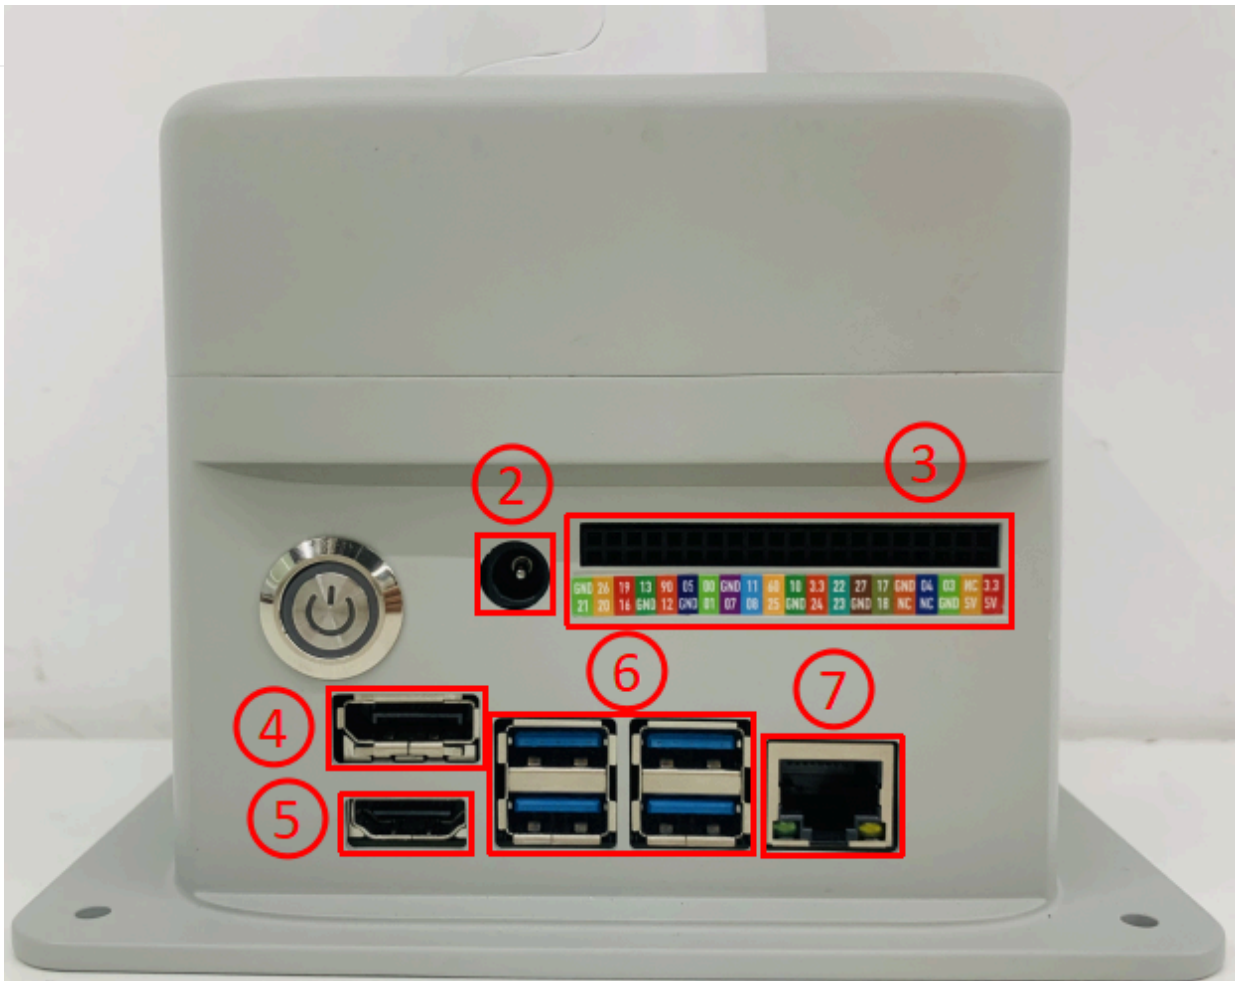

Figure 1 Base interface
A. The base interface is shown in Figure 1 below: